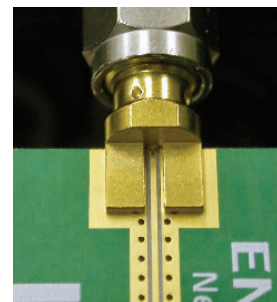
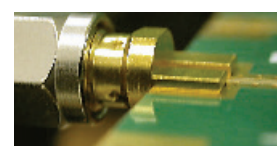

Figure 2
Figure 3
- Position connector on the circuit board, making sure the contact pin is aligned with the center of the signal trace as shown in Figure 2. Make sure that the connector legs and contact pin are held flush against the top of the circuit board, keeping the axis of the connector parallel to the plane of the circuit board, as shown in Figure 3.